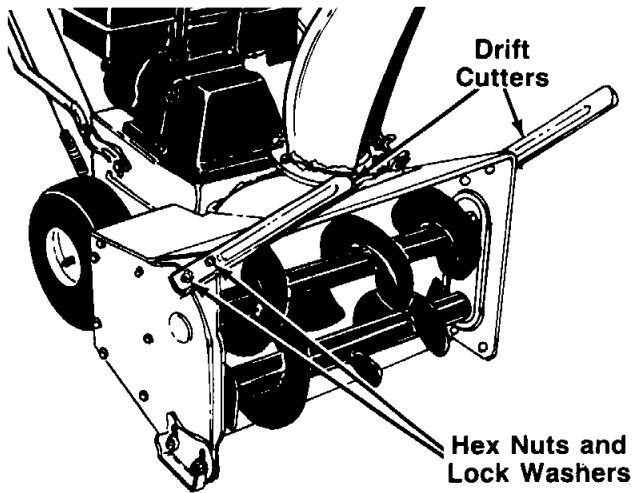

FIGURE 18.—Model 31340 Shown
24. Assemble the drift cutters by using a 1/2" wrench to remove the hex nuts and lock washers holding the drift cutters to the auger housing. See figure 18. Turn and place the drift cutters in position (ridges on drift cutters go toward the outside of the unit). Secure with the hardware just removed (heads of carriage bolts are to the **inside** of the housing). Tighten securely.